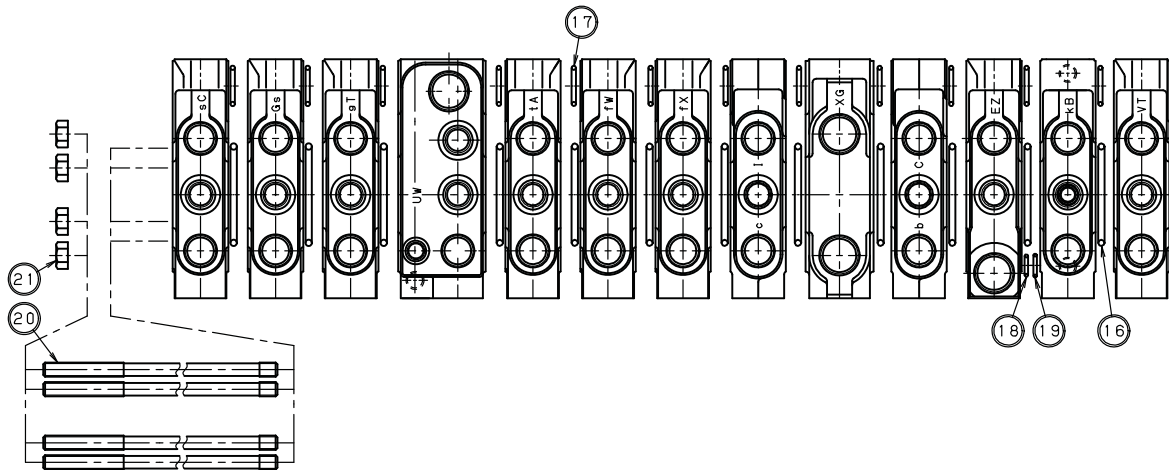

Fig.13 Body Assy
(6) Component body disassembly procedures (see Fig.13)
- ① Loosen and remove 4 M8 hex nuts (21) for assembling component bodies on the dozer (body-Work "sC") side with 13 mm screw wrench or socket wrench.
- ② When 4 tie bolts (20) are pulled out from the dozer side, each component body can be removed.